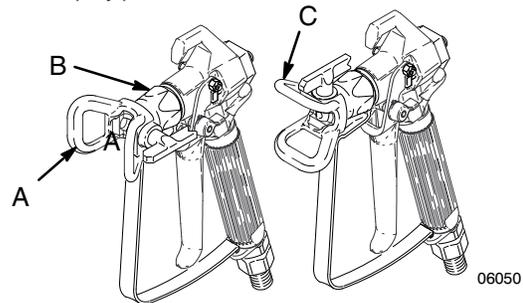

Fig. 3
1. To adjust the spray pattern direction, follow the **Pressure Relief Procedure** on page 5. Loosen the tip guard retaining nut (B). Turn the tip guard/ tip groove horizontally (C) for a horizontal pattern and vertically (A) for a vertical pattern. Tighten the nut. See Fig. 3.